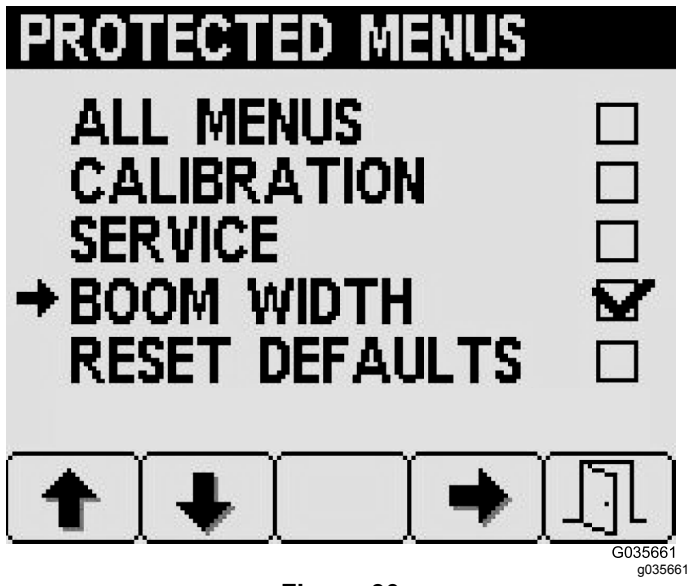

Figure 30
3. Press button 4 to select or deselect individual protected menu items as shown in Figure 30.